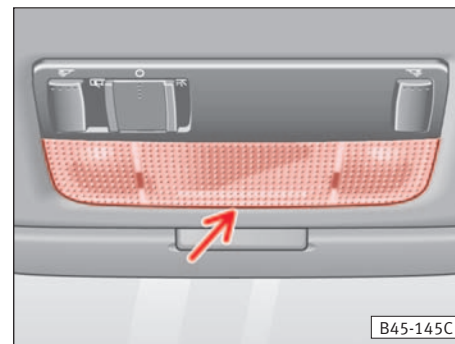

Fig. 160
- Remove the lens. To do this insert a fine screwdriver into the gap between the housing and lens (arrow ⇒ fig. 160) and lever the lens off carefully, to avoid damage.